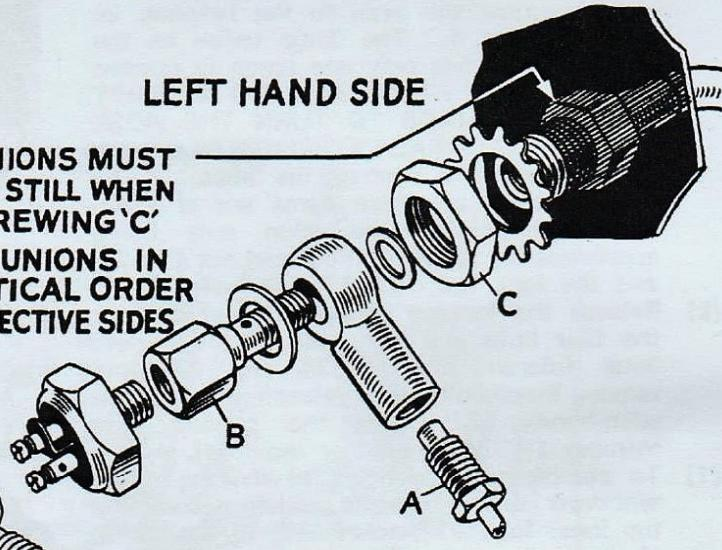

Fig. 4. Front brake hydraulic pipe connections
- (j) Disconnect the brake hose from the body valance. This detachment necessitates the removal, in the case of the right hand side of the car, of the two lower hydraulic unions and barrel nut to allow access to the nut which secures the hose to the balance, as shown in Fig. 4. The banjo union on the left of the car has only one union to remove in addition to the barrel nut. NO ATTEMPT SHOULD BE MADE TO TURN THE HOSE BY ITS HEXAGONAL EXTREMITIES, as such a procedure will destroy the hose. The hexagon sizes on these items are of Whitworth specification—the union nuts being approximately $\frac{7}{16}$ " A/F, the barrel nut $\frac{5}{8}$ " A/F, and the lock nut 15/16" A/F.
- (k) Release the locking plates (26) which lock the four bolts on each side of the bottom inner fulcrum bracket (24 and 27) and remove these bolts, thus releasing the bottom wish-bones (22) from the chassis side member ($\frac{1}{16}$ " A/F spanner required).
- (l) To complete the removal of the assembly, withdraw the four bolts which secure the top inner fulcrum bracket (26) to the spring abutment bracket. The two rear bolts are provided with loose nuts, but the outer pair screw into captive nuts ($\frac{3}{16}$ " A/F spanner required).